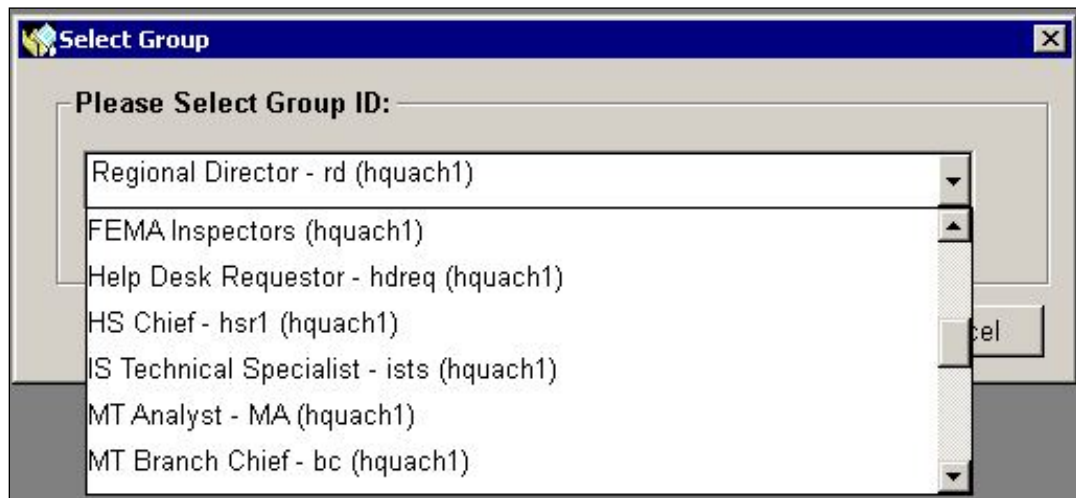

Figure 1-9: Mitigation Group ID Selection List
- Click the drop-down arrow to display the Group ID selection list (Figure 1-9). The available selection depends on the roles assigned to you. Select the Group ID that corresponds to the NEMIS HMGP process you will be doing.